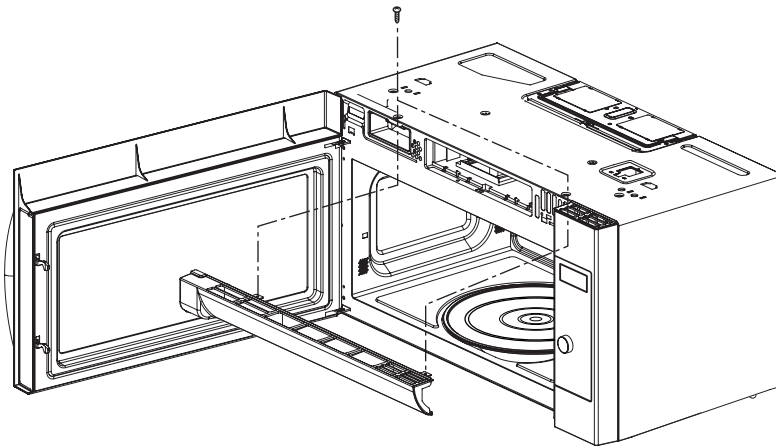

Figure 7
(Figures 7 Through 13b)
- (1) Remove the vent grille by loosening two screws. (Figure 7)
- (2) Remove the outcase. See page 7-5.
- (3) Remove four tap tite screws securing the magnetron to the wave guide.
- (4) Disconnect the leadwire.
- (5) Remove the magnetron VERY CAREFULLY.